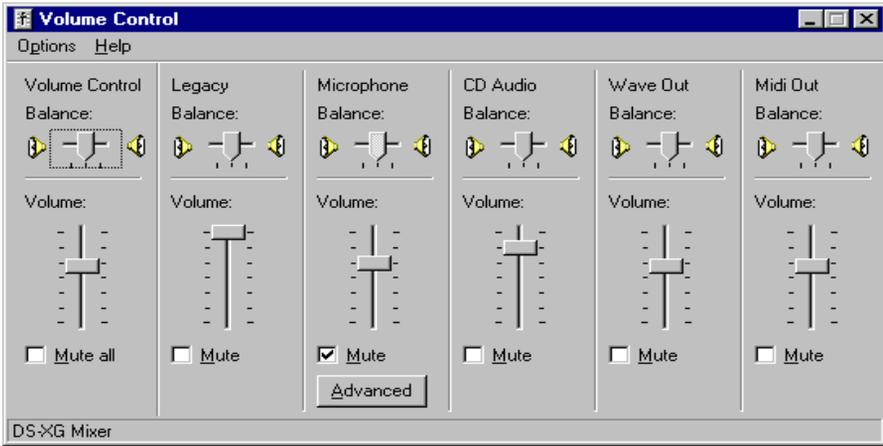

Figure 3-2. The Volume Control window.
- To access Advanced control of the Microphone device, first click on Mute and then click the Advanced button as shown in Figure 3-2 below.